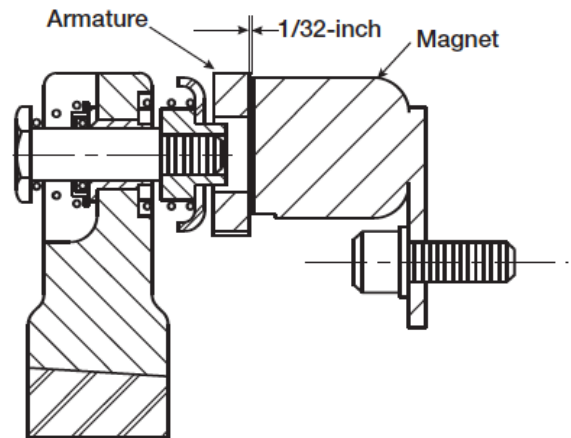

Figure 10
3. Place the face of the armature approximately 1/32" from the face of the magnet. Once this gap is set, it will be automatically maintained throughout the life of the unit. (Figure 10)
Push two terminal spacers (7) through rubber grommets using the correct terminal spacers. (See Figure 10)